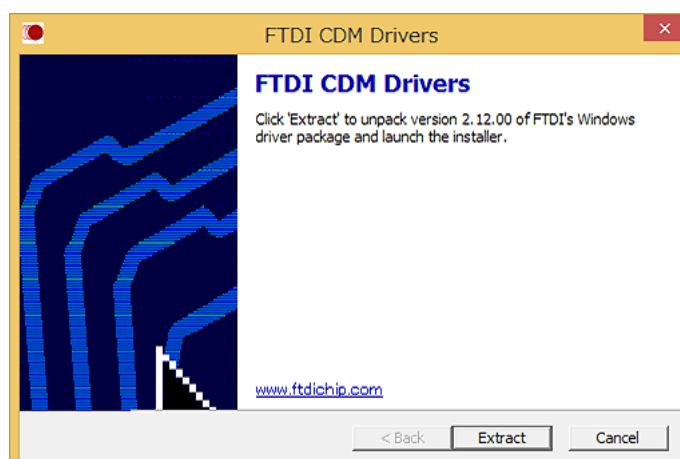

Fig. 8: FTDI CDM Drivers
- (1) Connect the KIT I/F cable to the USB port of the computer.
- (2) When "CDM v2.12.26 WHQL Certified" is executed, setup program starts and Fig. 8. FTDI CDM Drivers screen is shown.